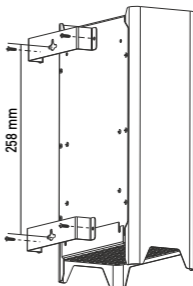

Fig. 1
- 6.4. Optional wall brackets are available for mounting the appliance horizontally or vertically on the wall [see Figure 1 for the brackets placement procedure].